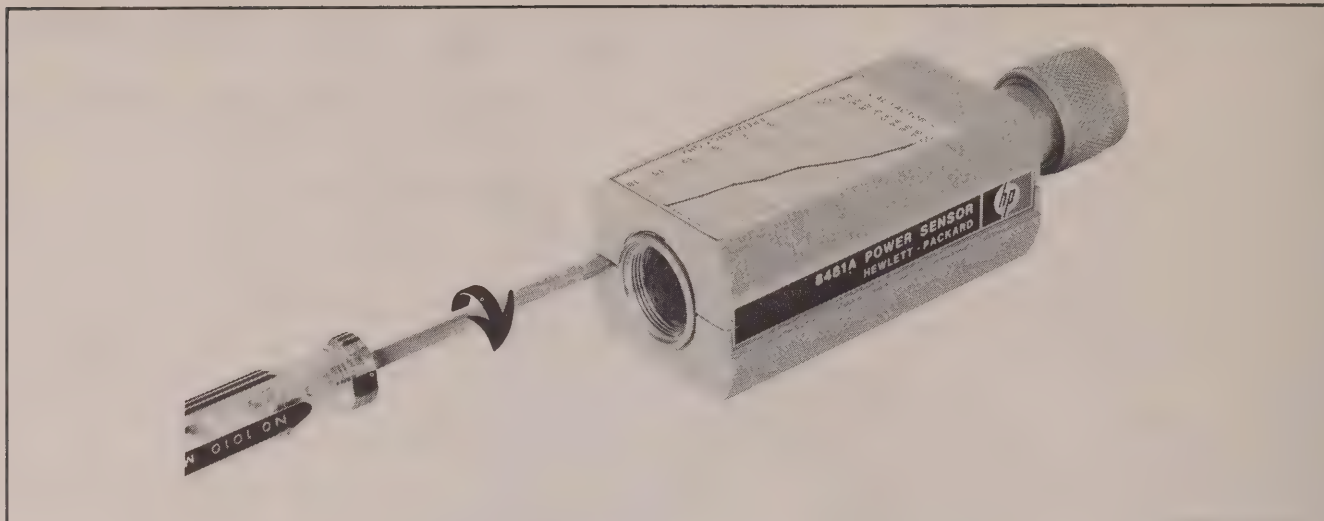

Figure 6. Removing the Sensor Cover
1. Remove the sensor from the high power attenuator. Insert the blade of a small screwdriver between the two-piece plastic shell at the rear of the sensor. Gently pry the sections apart. (See Figure 6.)